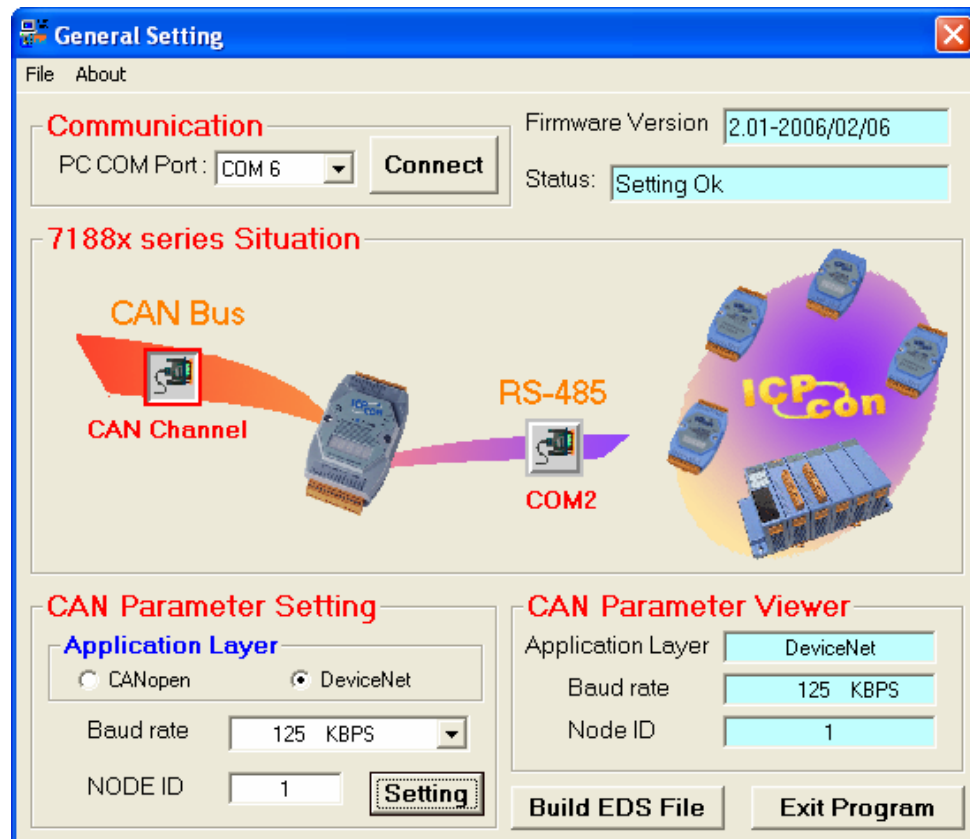

Fig 5-20
Step 5: When the I-7000 modules scan is finished; a related information dialog box will be displayed as figure 5-20.